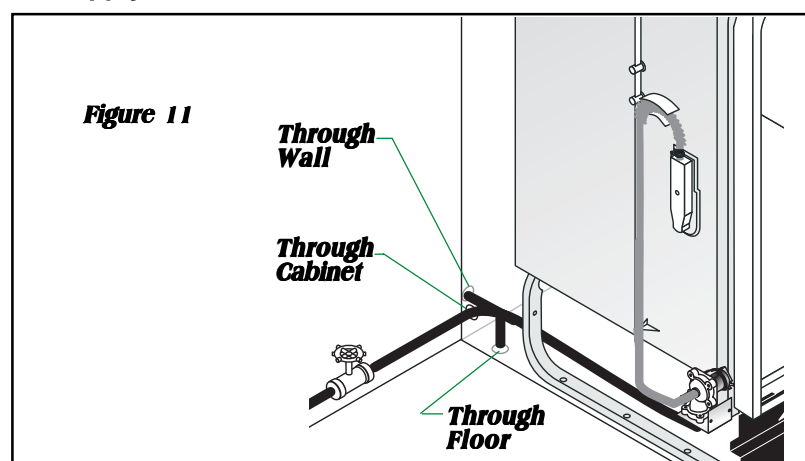

Figure 11
2. Route water line to water inlet valve as shown in Figure 11.
5. If water inlet valve clogs, make sure water supply is off. Remove four (4) screws at inlet end of valve and clean filter screen.